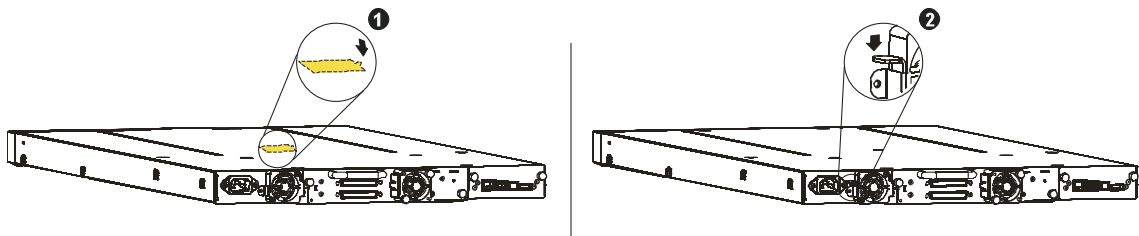

Figure 3 Shipping lock next to power supply
2. Store the shipping lock next to power supply (see Figure 3).